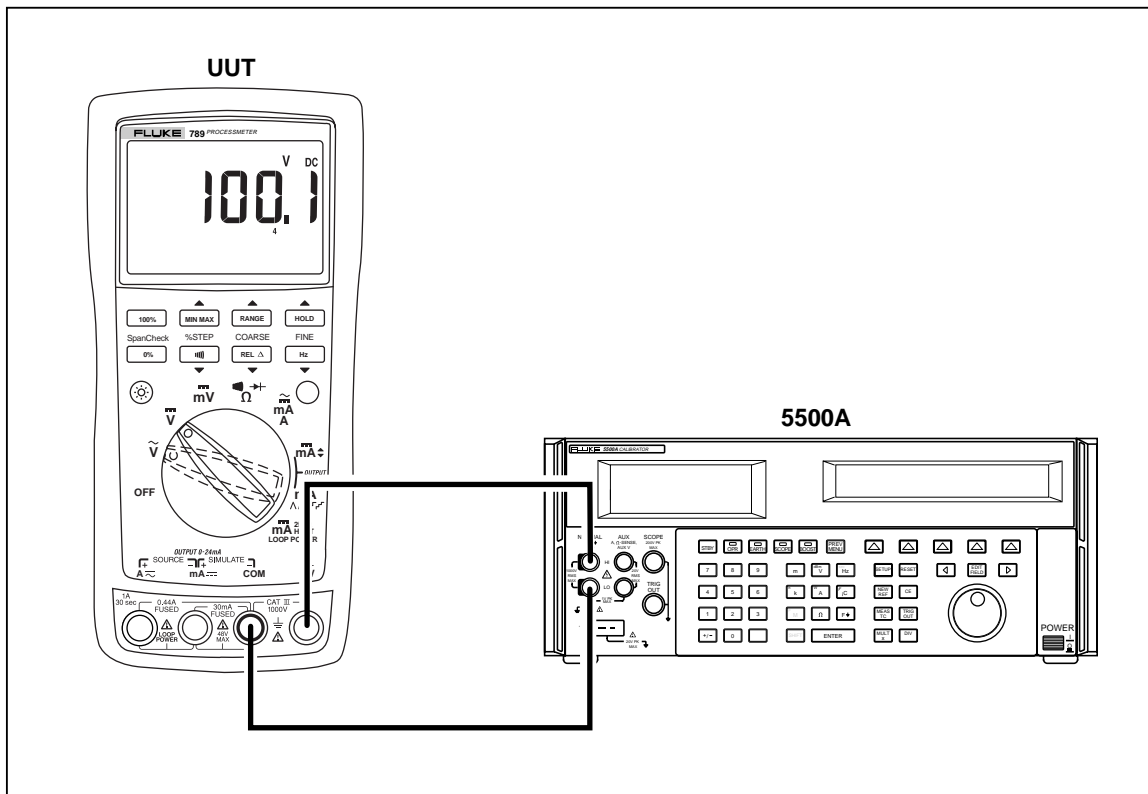

Figure 9. AC/DC Voltage Measurement Test Connections
3. Connect the calibrator to the **COM** and \bar{V} terminals on the UUT as shown in Figure 9.
3. Connect the calibrator to the **COM** and ΩV^+ terminals on the UUT as shown in Figure 9.